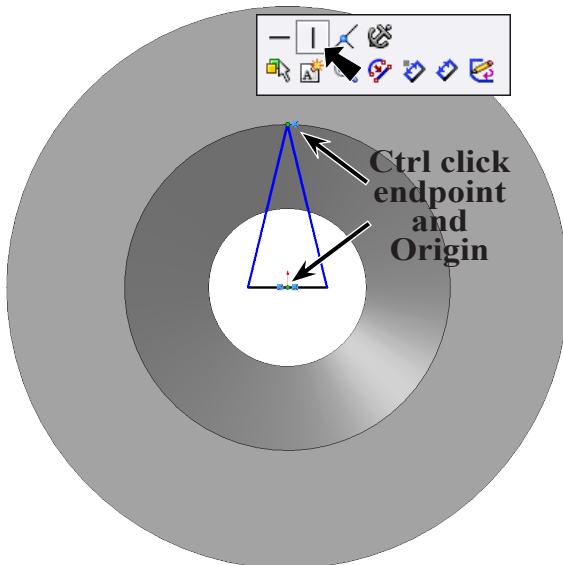

**Fig. 9**
Step 4. Draw a horizontal line out from the Origin  and continue line up to edge of body and back to other endpoint of horizontal line, **Fig. 9**.